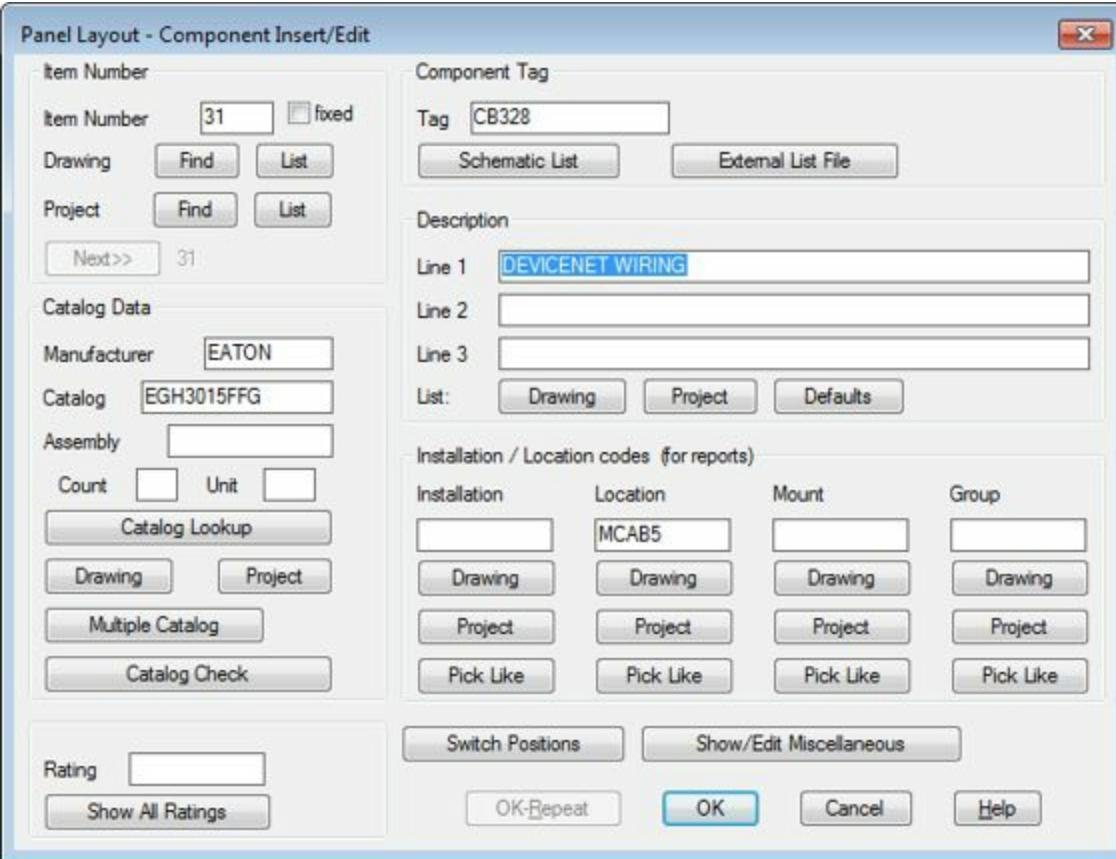

Figure-37. Panel Layout Component dialog box
- Select the desired component. The **Panel Layout - Component Insert/Edit** dialog box will be displayed; refer to Figure-37.